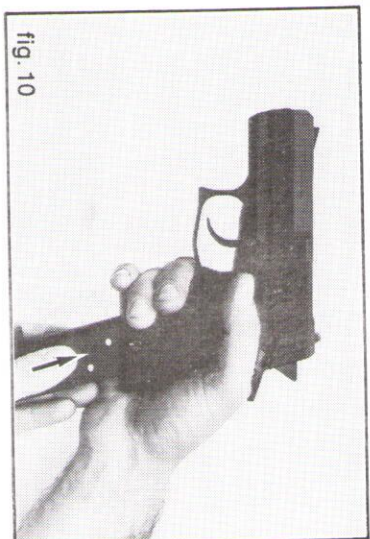

fig. 10
3. Insert the magazine into the pistol (fig. 10).